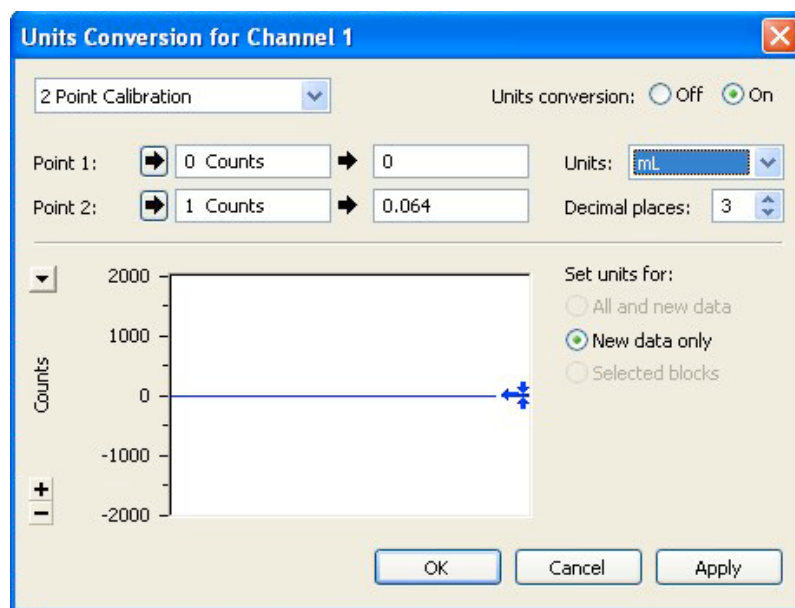

Figure 6.13 Units Conversion dialog box
- 6.4.13** Re-open the Computed Input dialog and click on the Units button to open Units Conversion for Channel 1 (**Figure 6.13**). Define mL as a unit and select to record to 3 decimal places. For Point 1 enter 0 counts and 0 mL and for point 2 enter 1 count and the volume calculated in **6.4.12**. Channel 1 is now calibrated to record directly in mL.